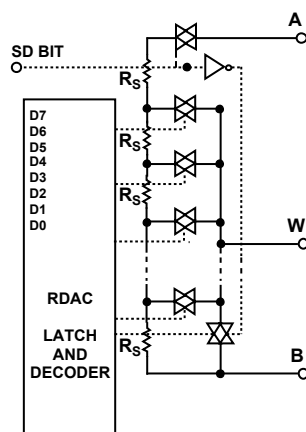

Figure 28. Equivalent RDAC Circuit (A terminal for AD5172 only)
The nominal resistance (R_{AB}) of the RDAC has 256 contact points accessed by the wiper terminal, plus the B terminal contact if R_{WB} is considered. The 8-bit data in the RDAC latch is decoded to select one of the 256 settings. Assuming that a 10 k Ω part is used, the wiper's first connection starts at the B terminal for data 0x00. Such connection yields a minimum of 60 Ω resistance between terminals W and B because of the 60 Ω wiper contact resistance. The second connection is the first tap point, which corresponds to 219 Ω ($R_{WB} = (1) \times R_{AB}/256 + R_W$) for data 0x01, and so on. Each LSB data value increase moves the wiper up the resistor ladder until the last tap point is reached at 10060 Ω ($((256) \times R_{AB}/256 + R_W)$). Figure 28 shows a simplified diagram of the equivalent RDAC circuit. The general equation determining R_{WB} is